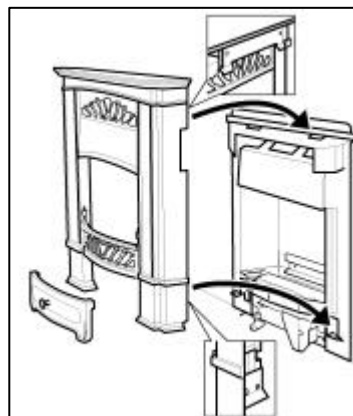

Figure 47 Front removal/refitting - Homestyle
13.4.2 Raise the front casting unit so that the bottom location brackets and the top location plate are released from the locations in the main fire case. See figure 47.